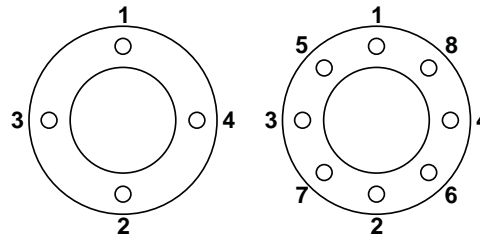

Figure 4.2
For 4" ANSI 150 or DN100 PN16 flanged connections, the use of flat flanges without raised faces is recommended. Use a ring gasket as defined in ASME 16.21 or ISO 7483. Tighten flange bolts in an alternating sequence as shown in figure 4.2. Tighten to 76-80 ft-lb (100-110 Newton-Meters).
- Apply Loctite #242 (blue) compound to 3/8-16 screws and tighten to 180 to 200 in-lb (15 to 17 ft-lb) using the alternating sequence shown in figure 4.2.